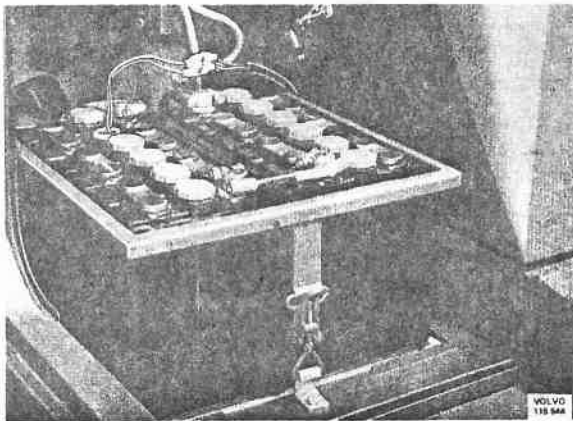

Fig. 31-3. Batteries
2. Disconnect the battery cables from the batteries and remove the cables for the temperature contact at the joint coupling, see Fig. 31-3.
3. Undo the two locks for the battery holder, Fig. 31-3, and remove the battery holder.